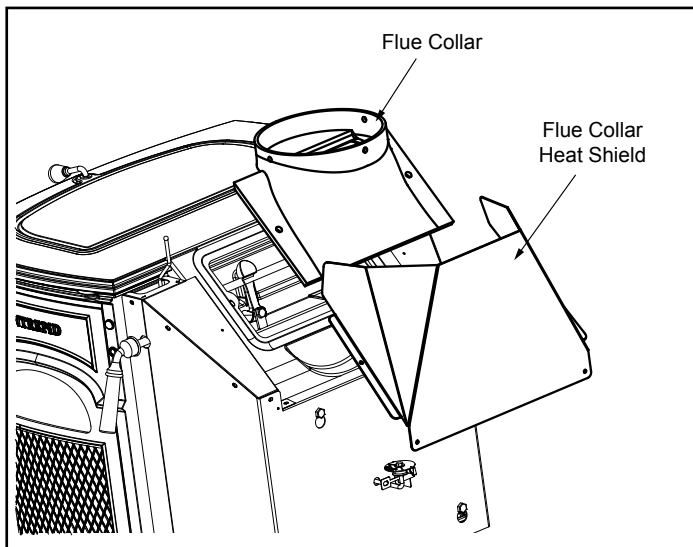

Figure 5.11
1. Remove (4) #10 X 1/2" phillips screws from the rear heat shield. Remove heat shield. Figure 5.11.
2. Remove (2) 1/4-20 X 5/8" button head screws from the flue collar. Remove flue collar. Figure 5.11.